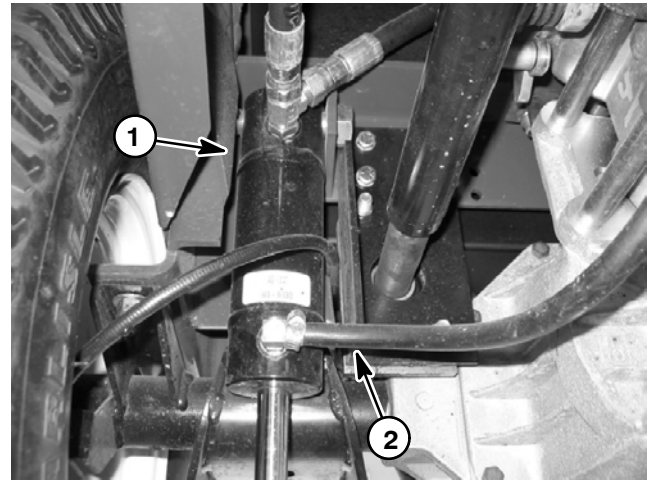

Figure 21
4. Loosen the hose clamp and disconnect the cylinder return hose from the bottom of the lift cylinder (Fig. 21). Leave the other end of the return hose connected to the filter adapter on the transmission.